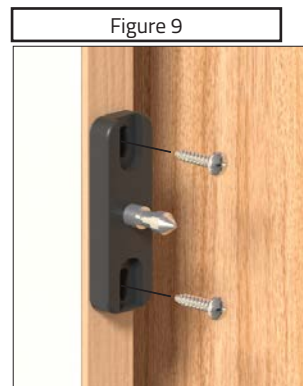

Figure 9
13. Use the (2) M4x16mm" wood screws to install latch to the jamb (*see figure 9*).